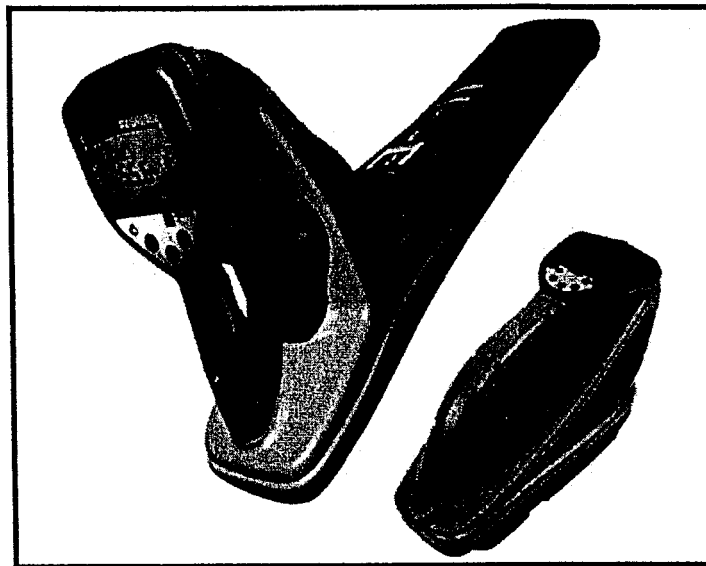

Figure 1(a) / Rajah 1(a)
- CLO1 (a) Based on **Figure 1(a)**, identify the instrument used for this utility survey works and describe briefly the survey procedure for this method.